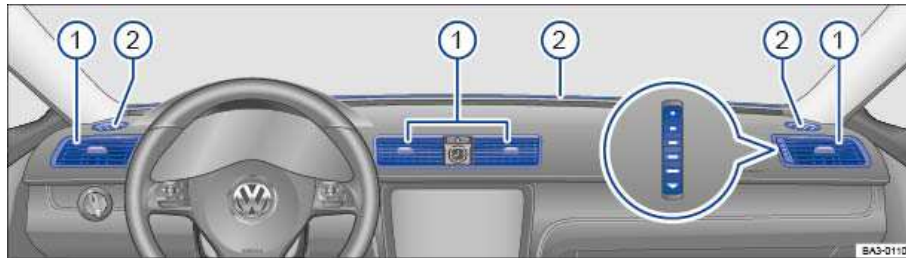

Fig. 174 In the instrument panel: Air vents.
To help ensure sufficient heating, cooling and ventilation in the passenger compartment, never close the air vents completely ⇒ fig. 174 (1).